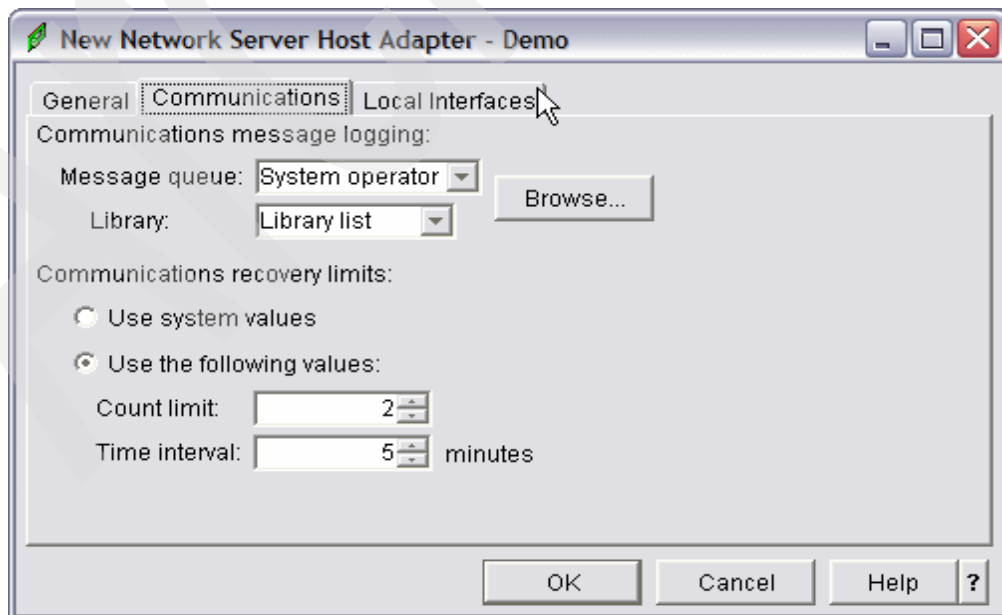

Figure 6-5 Communications tab: New Network Server Host Adapter window
- d. On the Communications tab, enter the following (Figure 6-5):